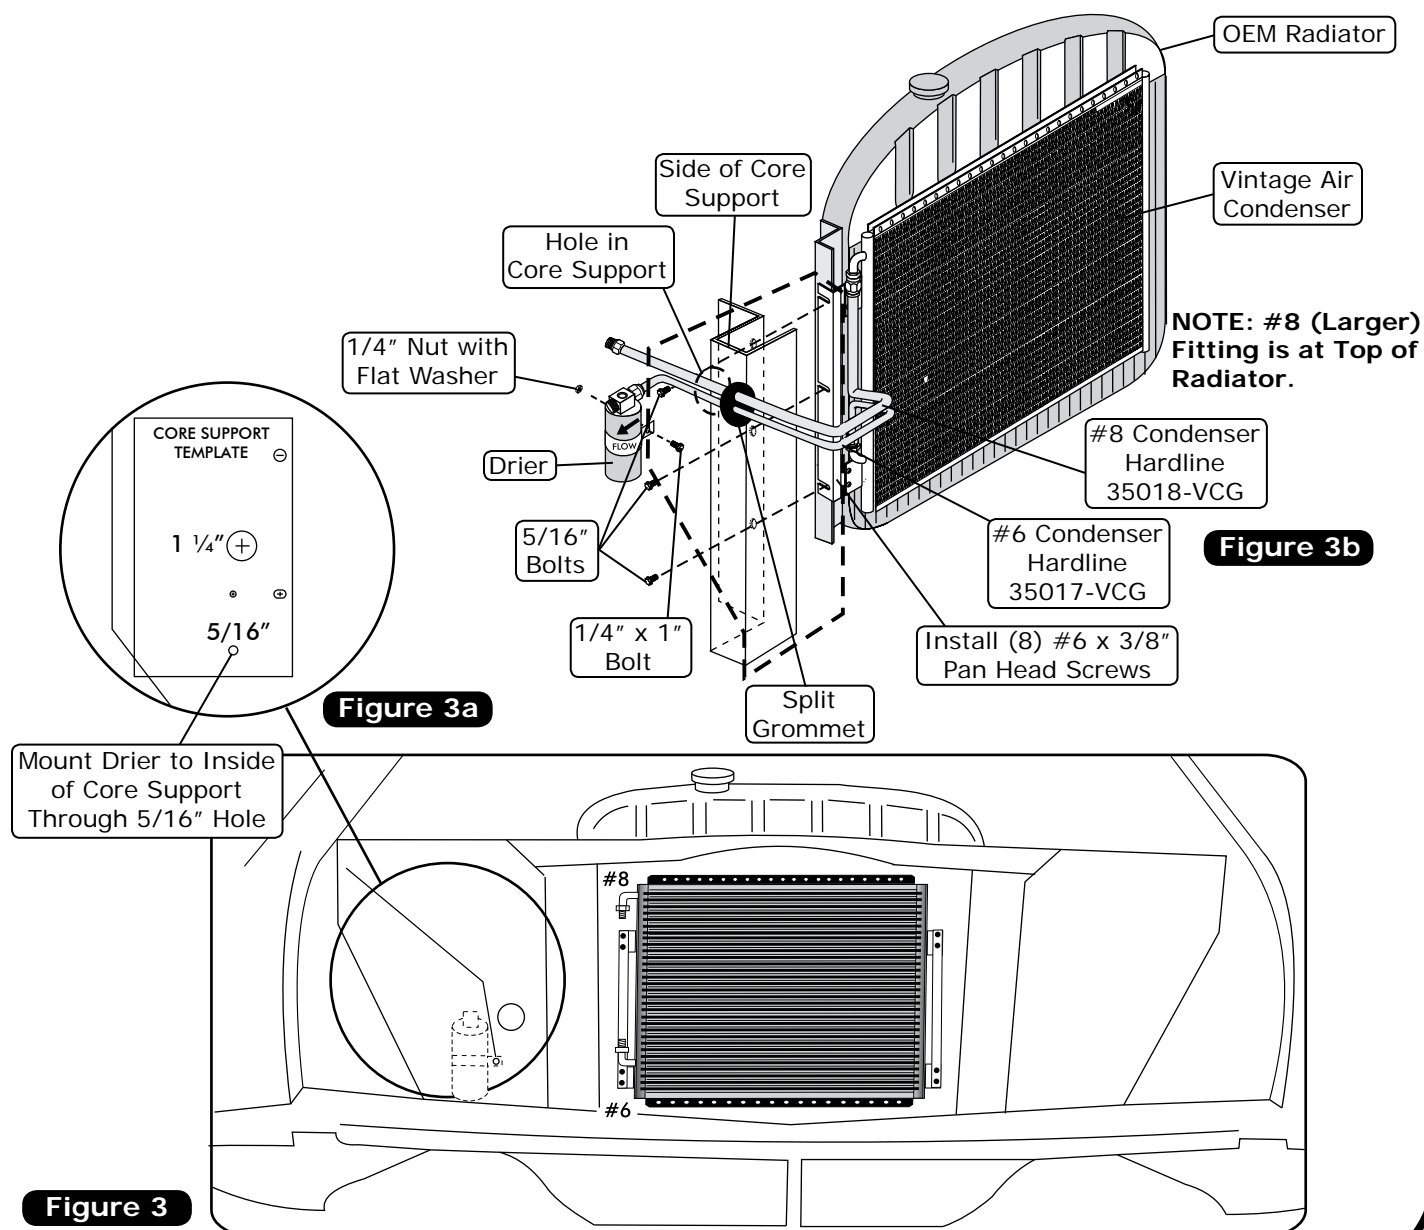

Figure 3
1. Loosen the (6) bolts that secure the radiator to the core support.
2. Slide the condenser assembly into position. The condenser brackets will be held between the radiator and the core support. Secure with the (6) radiator bolts (See Figures 3 & 3b, below). Holding the condenser in position, tighten the (6) radiator bolts.